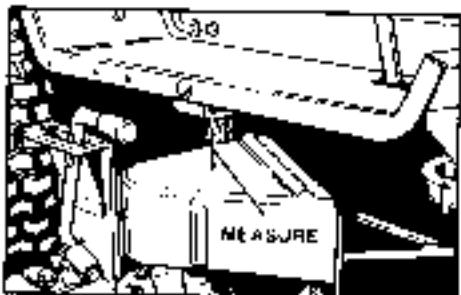

Figure 38. Measurement - Lift Lever
- 2 Measure the distance between top of pulley cover and bottom of upstop bracket on right-hand side (figure 38).